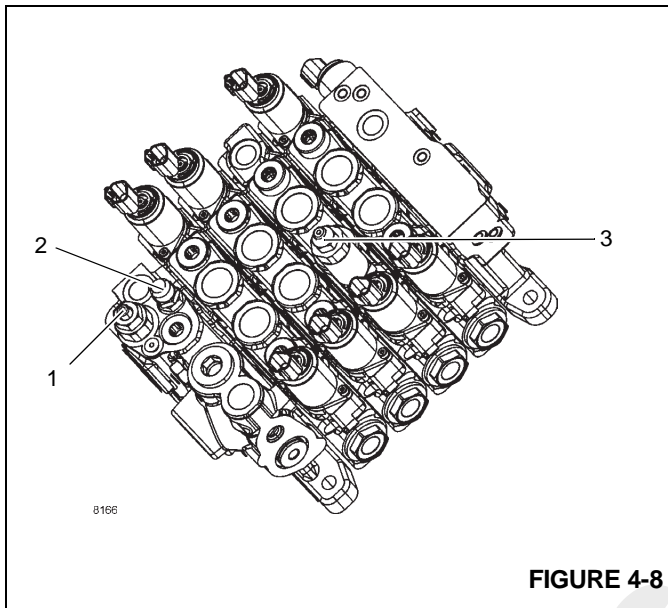

FIGURE 4-8
2. On the control valve, remove the cap on the load sense relief valve (1, Figure 4-8) and turn the adjusting screw fully in. A 19 mm open end wrench is required for the jam nut and a 3 mm wrench is required for the adjusting screw.
3. Loosen the jam nut on the relief valve (1, Figure 4-8). A 19 mm open end wrench is required for the jam nut.
4. Ensure the boom is all the way down. Activate the boom down function at full engine throttle, adjust the load sense relief setting by turning the relief valve adjusting screw (1, Figure 4-8) until  $258.55 \pm 3.45$  bar ( $3750 \pm 50$  psi) pressure is obtained on the pressure gauge; clockwise increases pressure, counterclockwise reduces the pressure. A 4 mm hex wrench is required for the adjusting screw.
3. Remove the cap nut on the priority flow load sense relief valve (2, Figure 4-8) located on the main control valve. A 18 mm wrench is required for the cap nut. Turn steering wheel all the way to one side until the steer cylinder bottoms out while another person adjusts the priority flow load sense relief setting by turning the relief valve adjusting screw (2, Figure 4-8) until  $172.37 \pm 3.45$  bar ( $2500 \pm 50$  psi) is obtained on the pressure gauge; clockwise increases pressure, counterclockwise reduces the pressure. A 3mm hex wrench is required for the adjusting screw.
- c. If the pressure is incorrect, adjust the extend work port relief valve (3, Figure 4-8) on the control valve until the pressure reads  $193.05 +3.45/-0$  bar (2800 +50/-0 psi); clockwise increases pressure, counterclockwise reduces the pressure. A 3mm hex wrench is required for the adjusting screw.
When the hoist block comes in contact with the anti-double blocking bracket at the end of the boom head, the bracket raises and actuates a switch. This switch, when actuated, closes an electrical signal to the three solenoid valves opening them Figure 4-8. With the solenoid valves open, oil supply to the check valve is reduced. The check valve spring